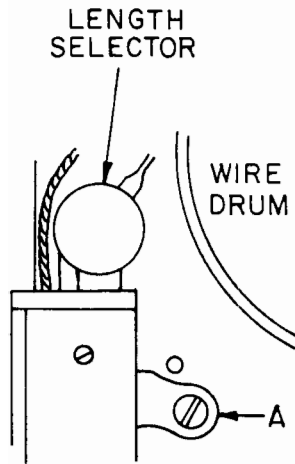

Fig. 324. Putting the machine in gear.
4. To put the machine into gear, turn the feeder cam to the position shown in A, Figure 324.
5. Close the faceplate, and put the machine into gear as shown in A, Figure 324.